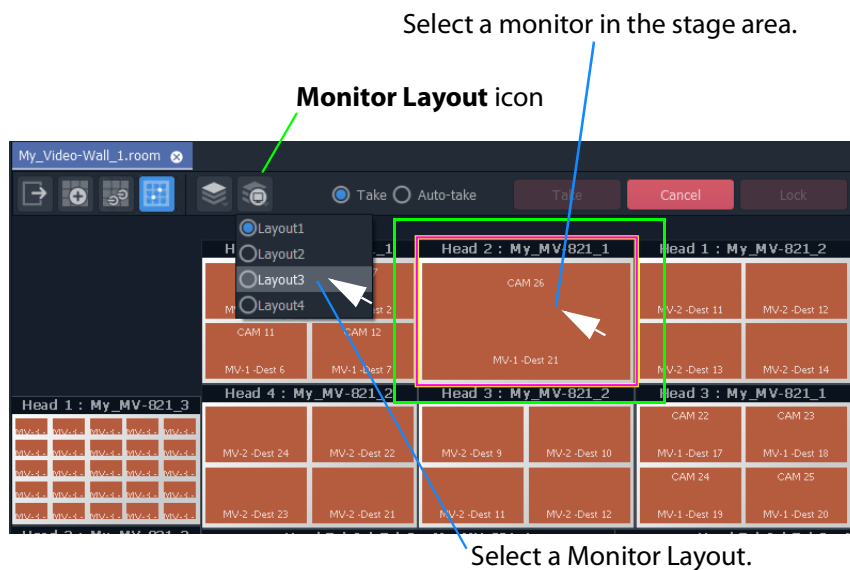

Fig. 8-90: Select Alternate Monitor Layout
- 1 Select a monitor in the **X/Y Routing** screen stage area. (See Figure 8-90.)
- 2 Click on the **Monitor Layout** icon in the **Room Editor** tool bar and select the required **Monitor Layout** to show. (See Figure 8-90.)